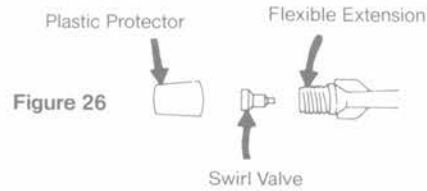

Figure 26
4. After cleaning, replace swirl valve into the flexible extension and cover with the plastic protector. The swirl valve assembly should be inserted into the cartridge. See Figures 26 and 27.